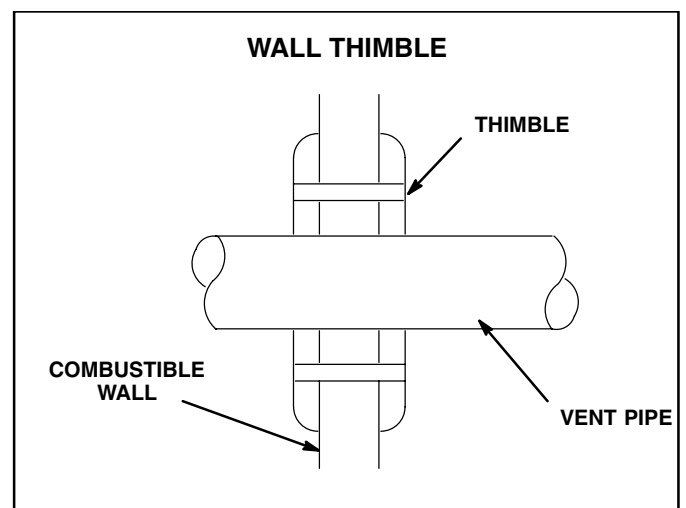

FIGURE 17
- 8- The vent may pass through a wall where provisions have been made for a thimble as specified in the Standards of the National Board of Fire Underwriters. See figure 17.